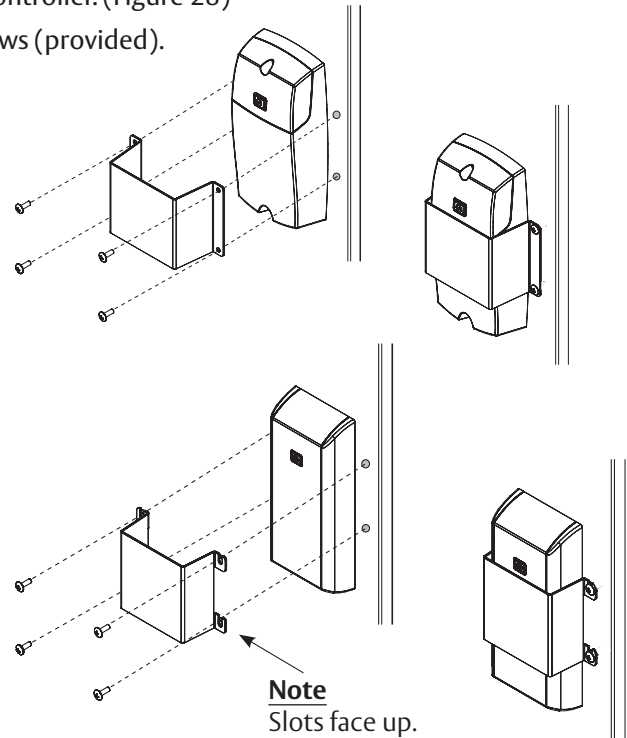

Figure 28
- Install the shield (provided) over the inside controller. (Figure 28)